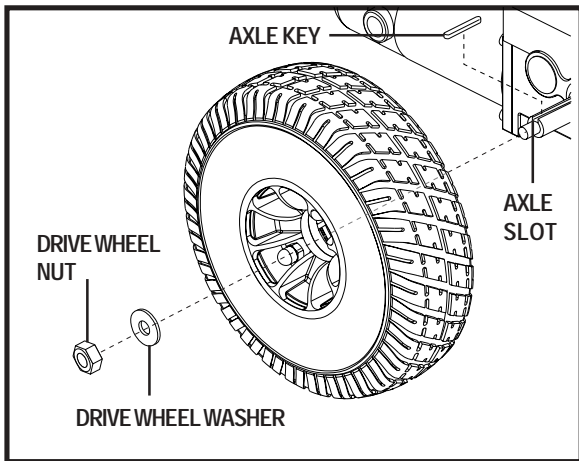

Figure 27. Quantum 1107 Drive Wheel
4. Remove the drive wheel nut and washer from the axle. See figure 27.